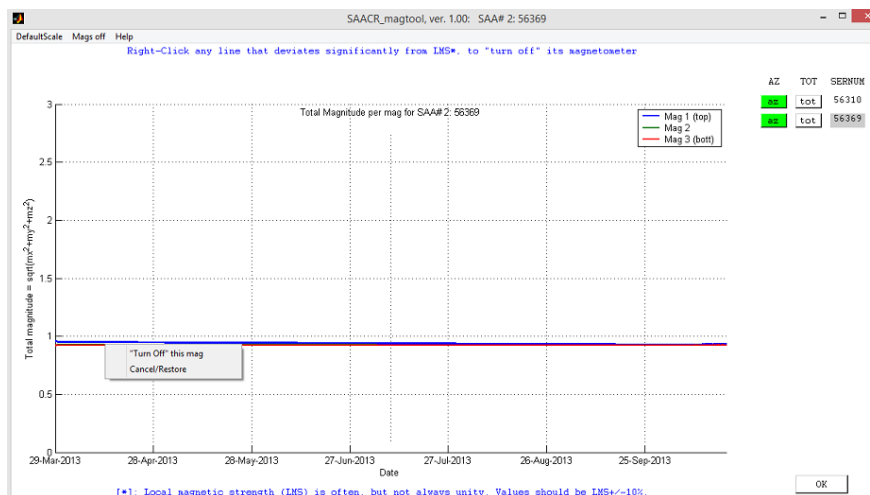

Figure 5.32: The menu available by right-clicking the mouse over a mag line while in 'tot' mode.
- **'tot' Button** - Select the **'tot'** button. The magnitude of the magnetic field at each mag of an SAA will be shown, for all times. The vertical line (now dotted) is still available, but is not used to make selections. By selecting any mag line with the right mouse button the user can turn off that mag if desired, see Figure 5.32.